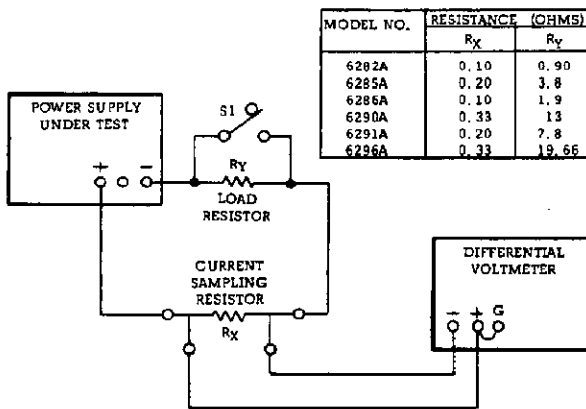

Figure 5-4. Output Current Test Setup
| Resistive Loads | Value: See Paragraph 5-14, and Figure 5-4. \pm 5% 250 watts. | Power supply load resistors | ----- |
| Current Sampling Resistor | Value: See Figure 5-4. 1%, 200 watts, 20ppm, 4-Terminal. | Measure current; calibrate meter | ----- |
- Connect test setup shown in Figure 5-4, leaving switch S1 open.
- a. Connect test setup shown in Figure 5-4.
- a. Utilize test setup shown in Figure 5-4 leaving switch S1 open throughout test.
- a. Use test setup shown in Figure 5-4, except connect AC voltmeter across sampling resistor instead of differential voltmeter.